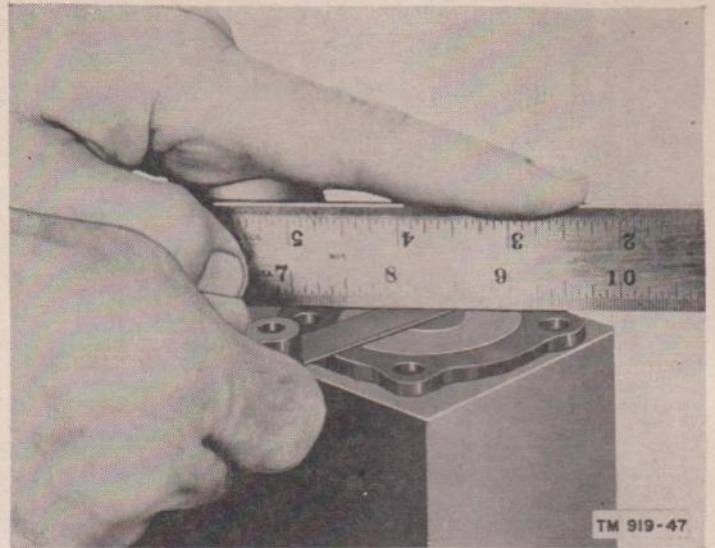

Figure 48. Checking oil pump cover.
- (5) Examine the inner surface of the cover for scoring or scratches. Check the flatness of the cover as shown in figure 48. It must be flat within .001 inch. The thickness of the rotors must be within .001 inch of each other. Assemble the rotors in the pump body and install the cover without the gasket. Tighten the cover screws to normal tension. Now it should be impossible to turn the pump shaft by